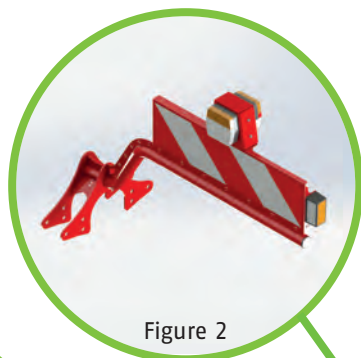

Figure 2
- **LED supplementary lighting** for front and rear with indicator, indicator monitoring and brake light (Figure 2)